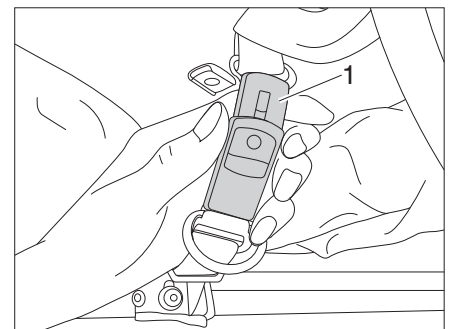

Fig. 26 Closing the securing belt
- Close the securing belts (Fig. 26,1).